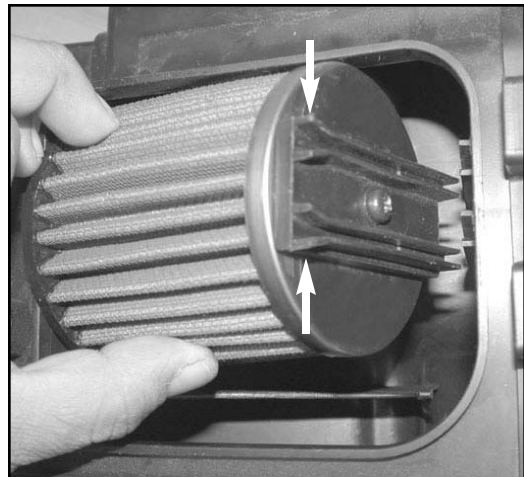

Fig. 2
5. Place the open end of the K&N Filtercharger® over the intake tube making sure to position the plastic bracket on the filter with the “Y” facing up. (Fig. 2)